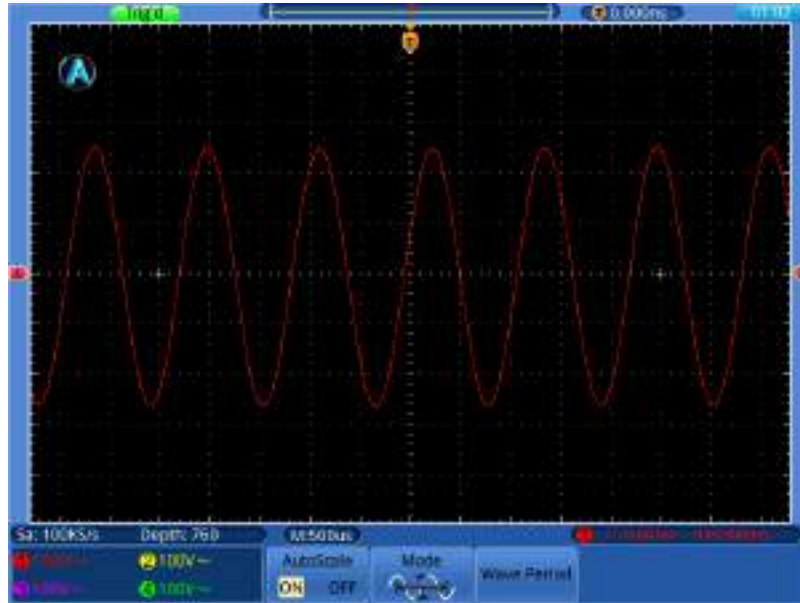

Figure 5-14 Autoscale Horizontal-Vertical multi-period waveforms
4. Select **Wave Period** in the bottom menu, select  in the right menu, shown as *Figure 5-14*.